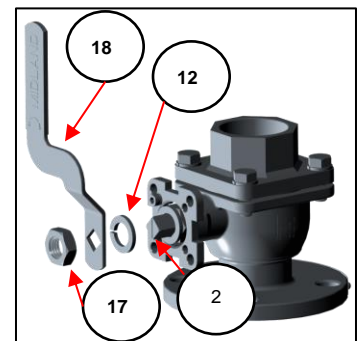

Figure 4-2
- 4.1.3 Remove the nut (item 17) from the stem (item 2) by turning it counterclockwise. Then remove the handle (item 18) and lockwasher (item 12). (Figure 4-2)